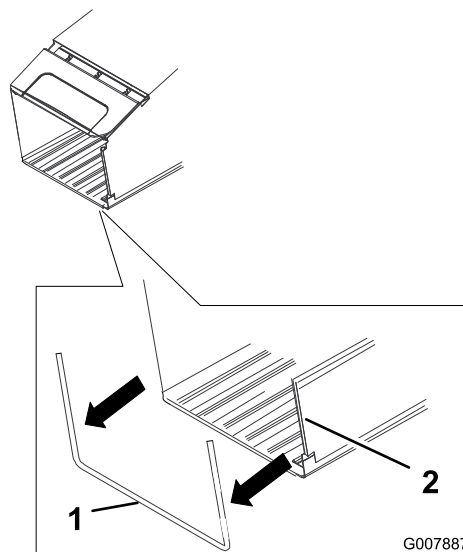

Figure 6
1. Attach the two side channels of the grass bag to the grass bag frame as shown in (Figure 6).